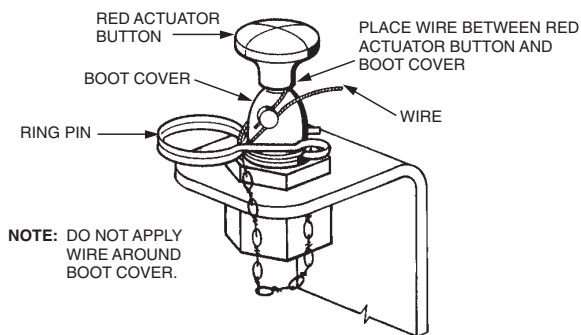

FIGURE 9
- Make certain ring pin is inserted through the RED actuator button to ensure safe cartridge installation. See Figure 9.
- Seal ring pin to actuator stem with visual inspection seal, Part No. 197. Make certain visual inspection seal is looped through ring pin and around actuator stem. Do not wrap seal around the boot cover. See Figure 9. **DO NOT INSTALL CARTRIDGE AT THIS TIME.**
6. Seal ring pin to actuator stem with visual inspection seal, Part No. 197. Make certain visual inspection seal is looped through ring pin and around actuator stem. Do not wrap seal around the boot cover. See Figure 9. **DO NOT INSTALL CARTRIDGE AT THIS TIME.**